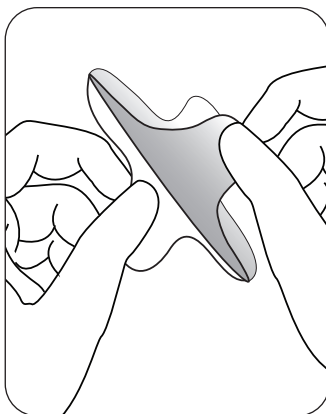

figure 10A: Removing Paper Liner
- B. Remove the paper liner, revealing the Patch adhesive (Figure 10A).